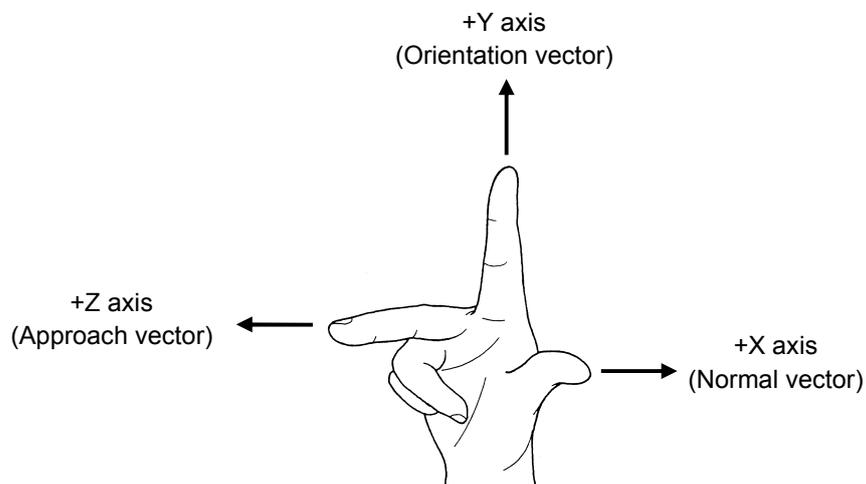

Figure 2-5. Right-hand Coordinates
- As shown in Figure 2-5, the X component is defined on the normal vector directed along the X axis (+) in the right-hand coordinates whose Y axis is an orientation vector and whose Z axis is an approach vector.